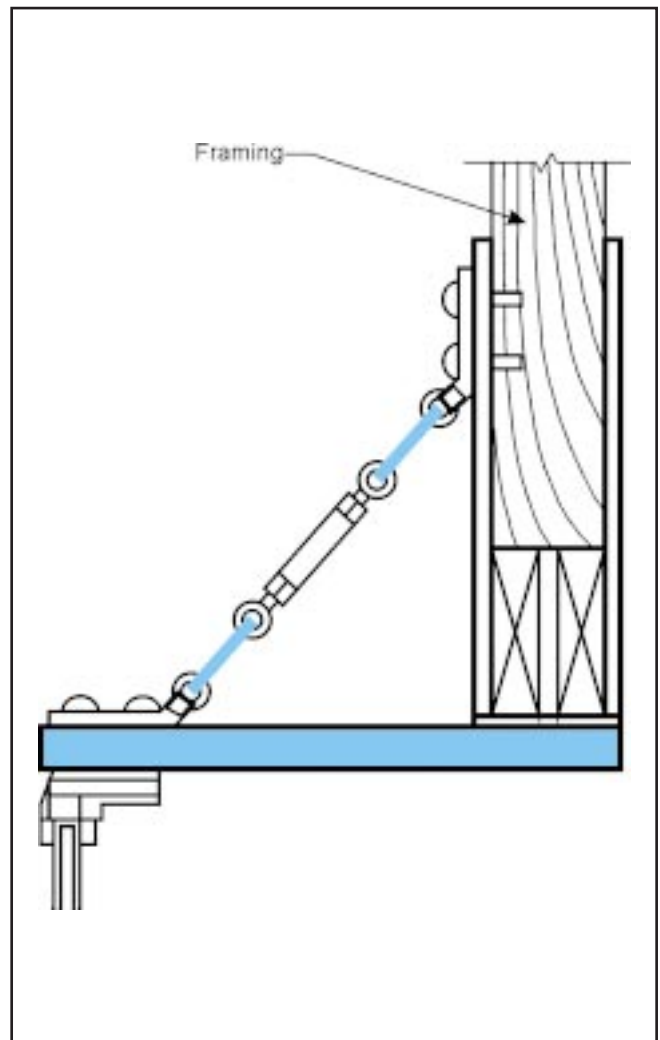

Figure 17-9 Top-Mount Cable Support System
Some cable support systems attach at the headboard; others run down through hollow mullions to the seatboard. Cable support systems are usually attached to the headboard and run diagonally from 15° to 45° to a wall bracket (*see Figure 17-9*). A turnbuckle allows vertical adjustments to compensate for changes in the structure caused by weather or settling.
6. If a cable support system which is recommended will be utilized, install it instead of metal straps (see *Figure 17-9*).